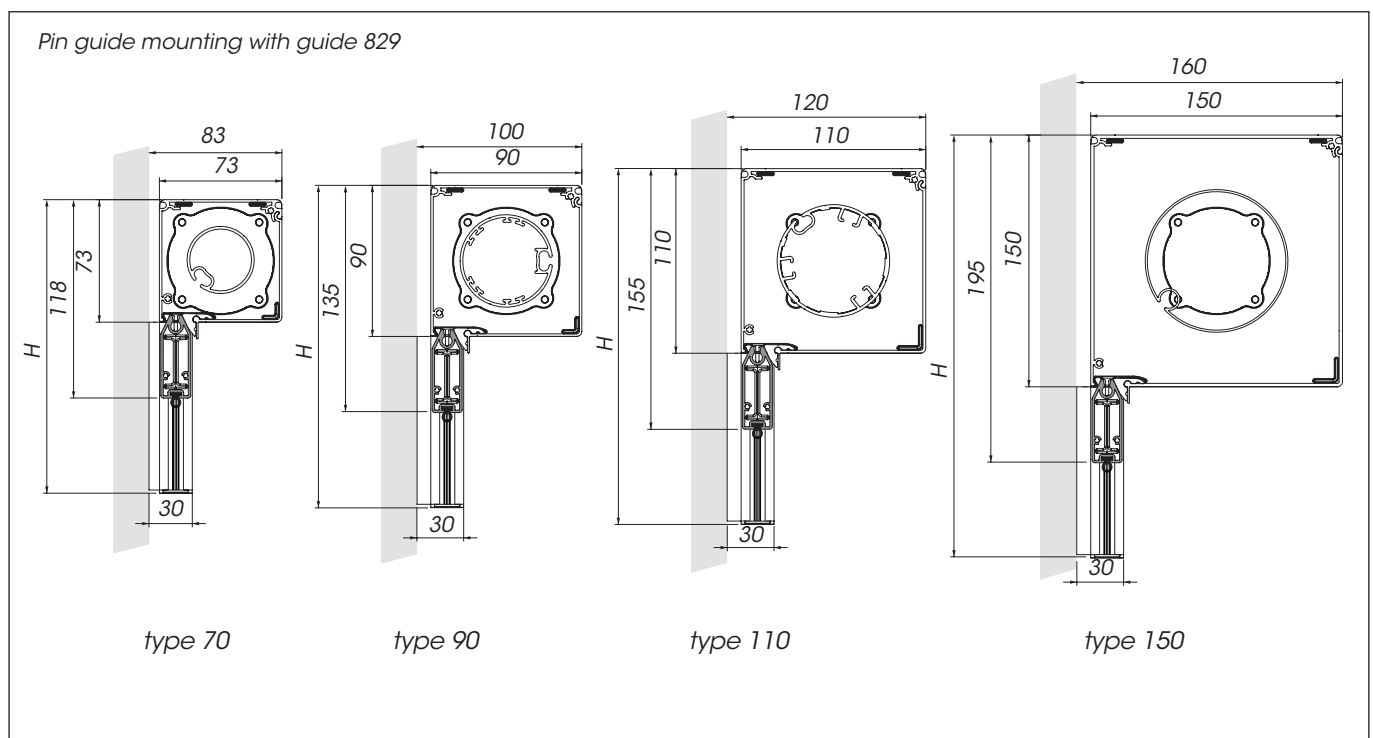

Fig. 5: Box dimensions
- Finished width (W) = size between rear ends of the consoles.
- Finished height (H) = height including the box, including the guide end caps (thickness = 2 mm) excluding mounting brackets. (see page 18).
- Available in four sizes: type 70, type 90, type 110, and type 150 (see fig. 5).